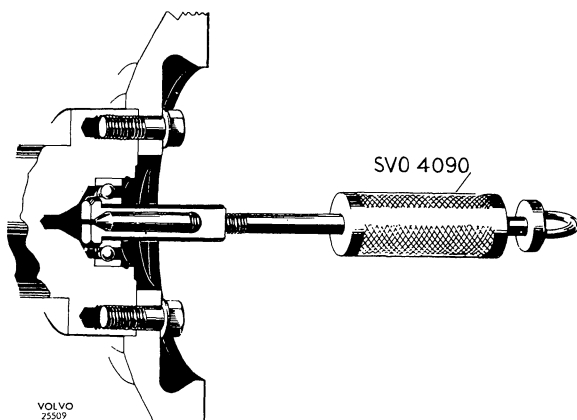

Fig. 4-6. Removing pilot bearing
1. The bearing is pulled out with puller SVO 4090, see Fig. 4-6. The bearing is cleaned in gaso-